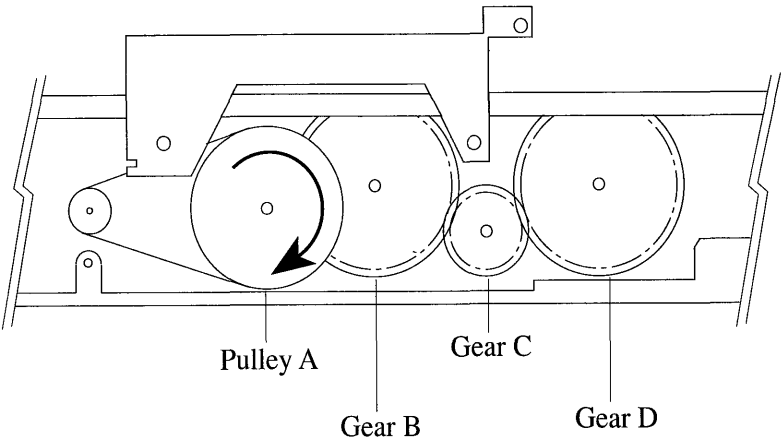

Fig. 1 Right-side view of CDC mechanism
- 1. To open the CD tray, turn the PULLEY A(see Fig.1) clockwise.